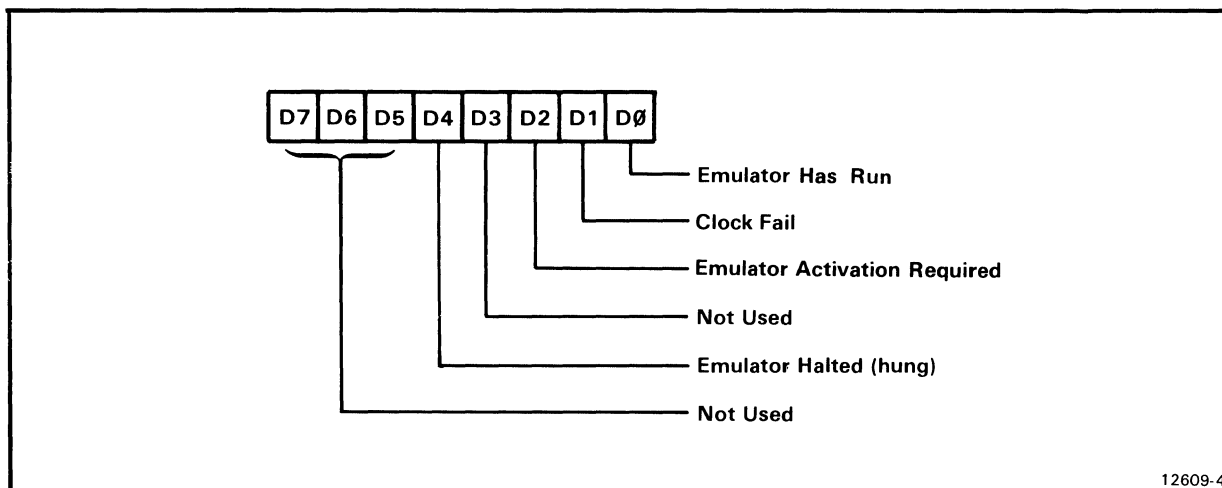
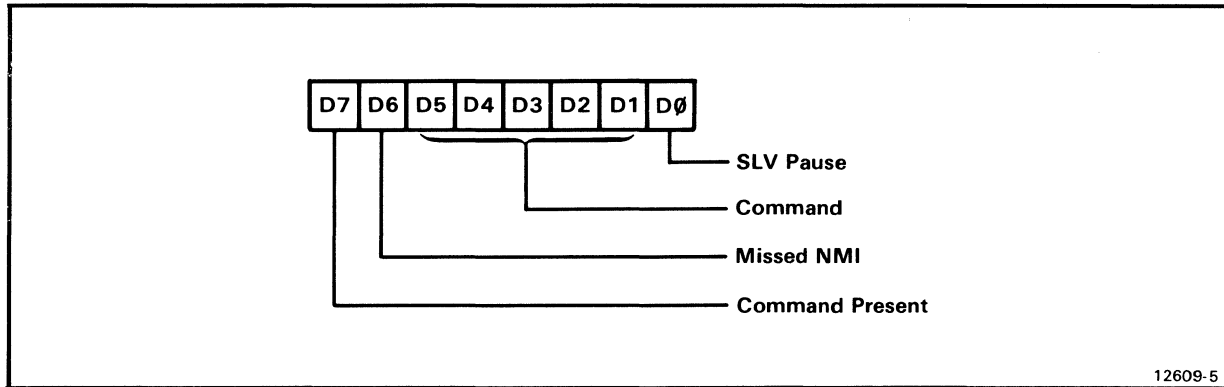

Fig. 4-9. Status byte.
Fig. 4-10. Command Port byte.
The Microprocessor reset is required whenever the emulation mode is changed or the 68000 microprocessor halts. The Status byte bit D2 (refer to Fig. 4-9) indicates whether an Emulator reset (D2=1) or a Microprocessor reset (D2=0) is required. When a Microprocessor reset is performed:
3. The 2650 writes a Register Restore command to D1--D5 in the Command Port (see Fig. 4-10). The 2650 then polls the Command Port until the 68000 microprocessor has finished executing the Register Restore command. Note that the Status Port (Fig. 4-9) will also be checked to see if there has been an Emulator Processor fault (D1 or D4).
4. The 68000 microprocessor responds to the Register Restore command by building a new control stack in the "Trapstack" (upper four words in the Shared Communication RAM; refer back to Table 4-8). This stack is built by taking the desired Supervisor Stack Pointer (SSP) 67FE, stacking the Program Counter (PC) to equal 100 and Status Register (SR) to 2700 in the Trapstack. After a Return from Exception (RTE), the 68000 microprocessor will be in the correct state. The 68000 microprocessor will then load the remaining registers from the register area of the Shared Communication RAM. The 68000 microprocessor clears the Command Port (D7--D1) when the Register Restore command has been executed.